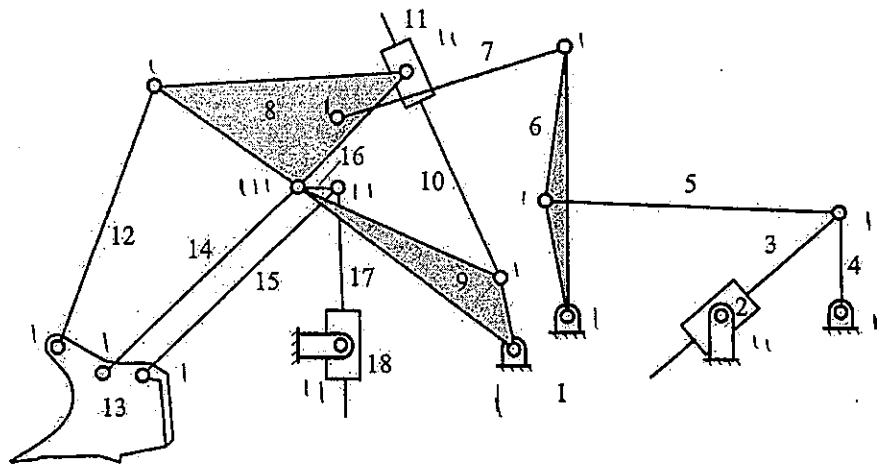

Figure 1
(a) The schematic of the entire linkage for a large power shovel used in strip mining is shown in Figure 1. Note that Links 3, 4, 5 are connected through revolute joints. Links 8, 9, 14 and 16 are connected through revolute joints. Links 15, 16 and 17 are connected through revolute joints. Link 7 is connected to Link 8 with a revolute joint.
- (i) Identify the types of links in the linkage as shown in Figure 1.